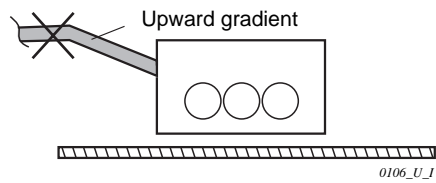

Fig. 3-92
- Do not give the pipe an upward gradient after the connection port. This will cause water to flow backwards when the unit is stopped, resulting in water leaks. (Fig. 3-92)